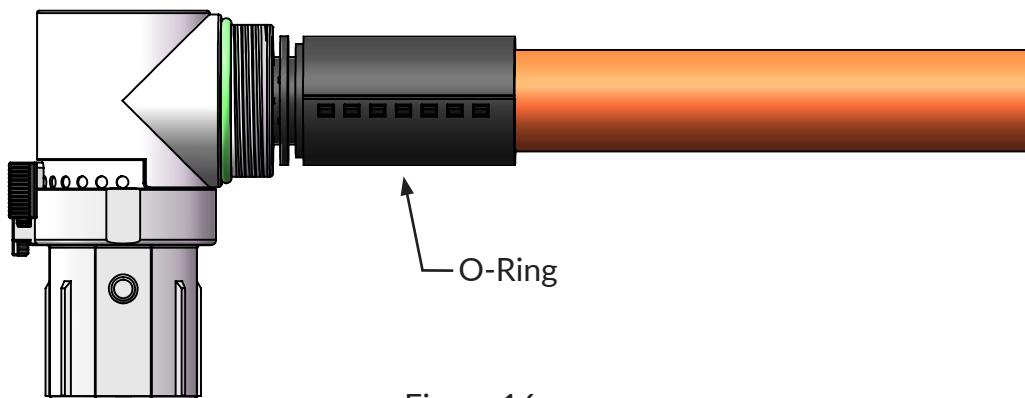

Figure 16
2) As figure 16 shown, assemble the O-ring into the plug shell;